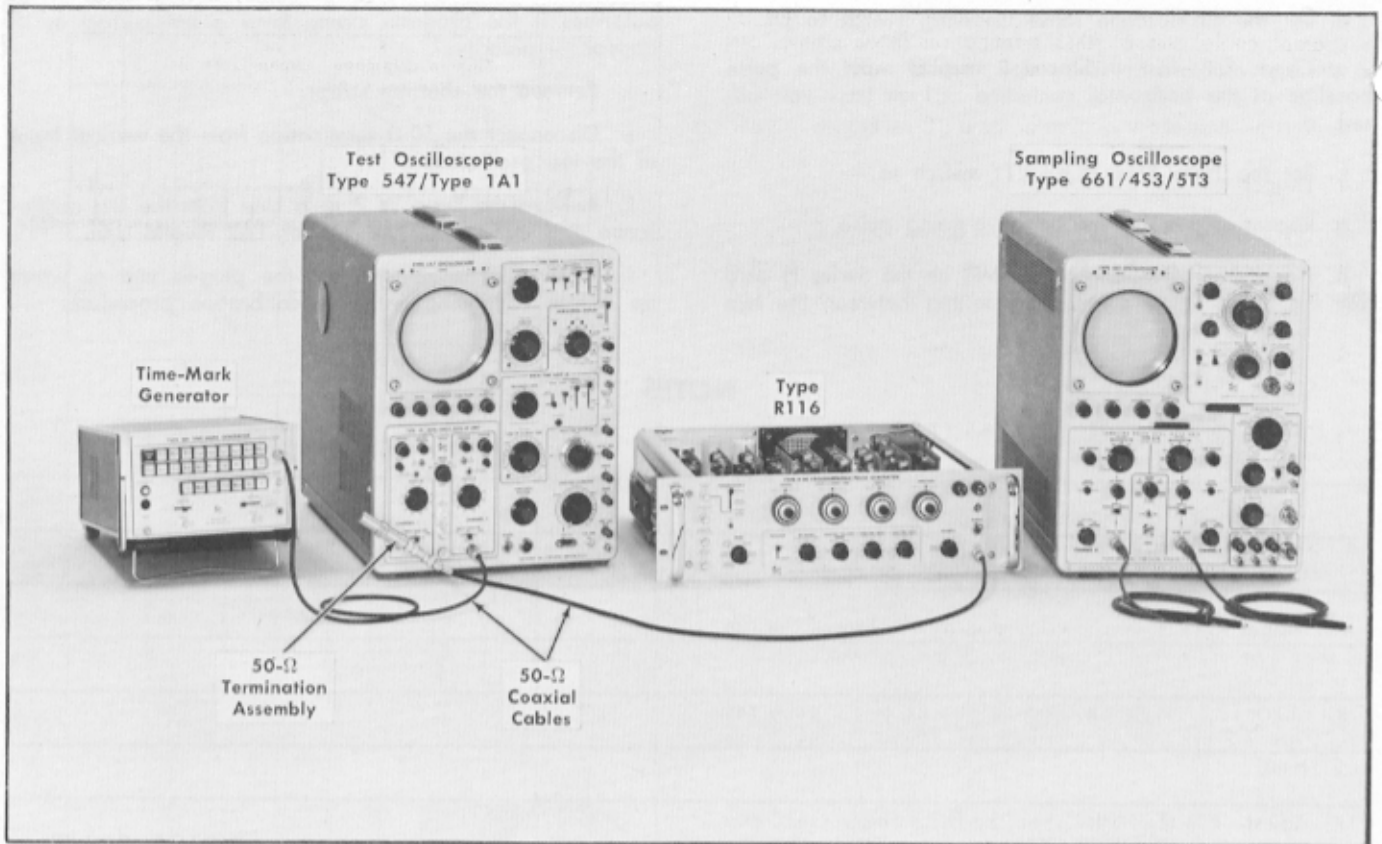

Fig. 7-20. Initial test equipment setup for calibration steps 19 through 25.
- a. Test equipment setup is shown in Fig. 7-20.